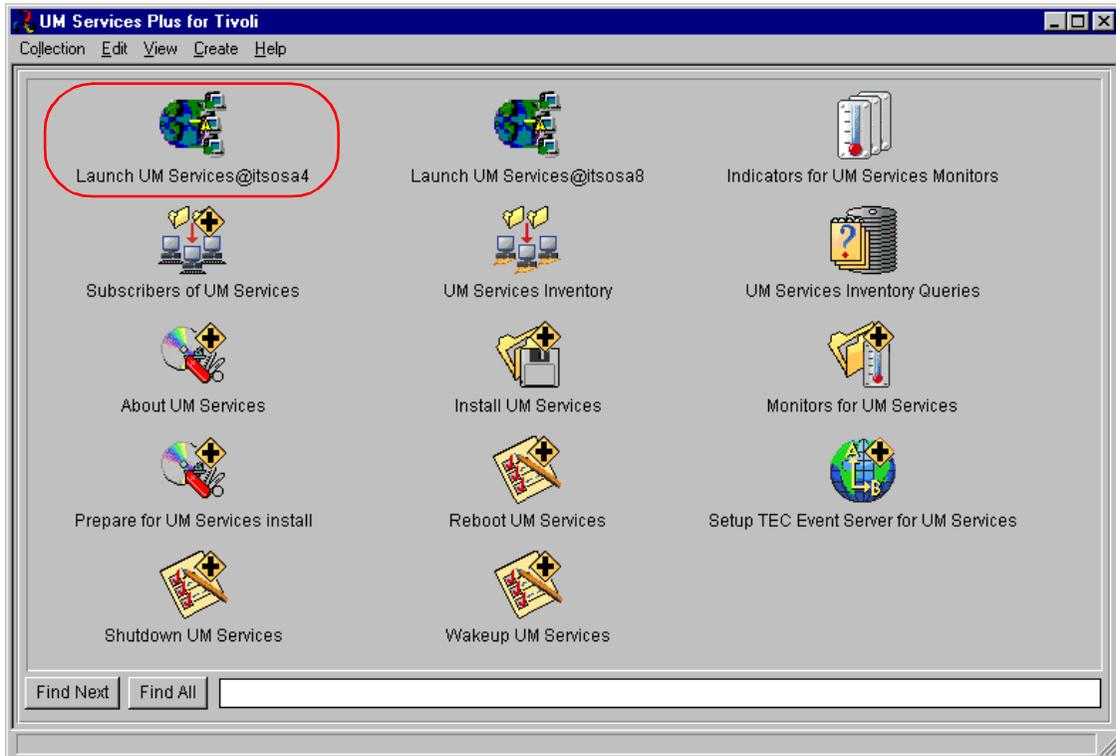

Figure 103. UM Services Plus for Tivoli Desktop (launching UMS on the local machine is highlighted)
5. Next you will double-click the **Launch UM Services** icon for the computer where you're logged on. In our case we are on our managed node ITSOSA4, so we will click the icon  circled in Figure 103.
3. Open the UM Services Plus for Tivoli Desktop as shown in Figure 103 on page 140.